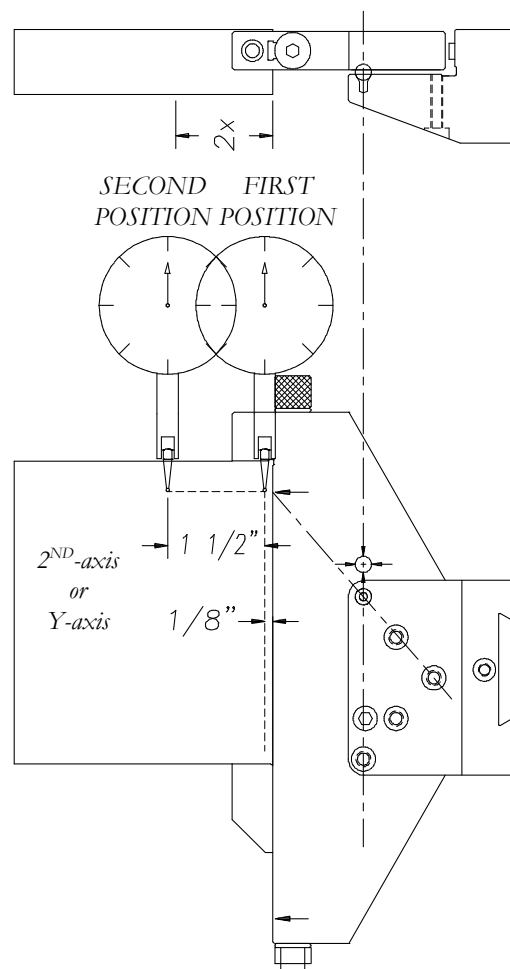

Figure 3
STEP 10. Truing the second-axis (A). Place the indicator ball anywhere along the workpiece within 1/8 inch from the vise bed as shown in Fig. 3. **(B).** Zero the indicator. **(C).** Move the indicator ball outward, perpendicular to the vise bed, in the second-axis to a distance of 1 and 1/2 inches (use a steel ruler). **(D).** Take a reading on the dial indicator and adjust the #2